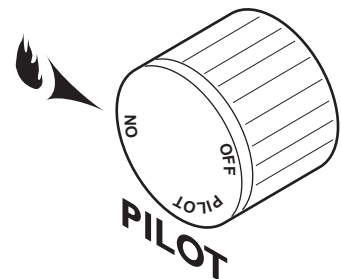

Figure 56 - On Position
Depress and turn the knob counterclockwise  to the “ON” position. *See Figure 56.* It will take less than four (4) seconds for the burner to ignite.